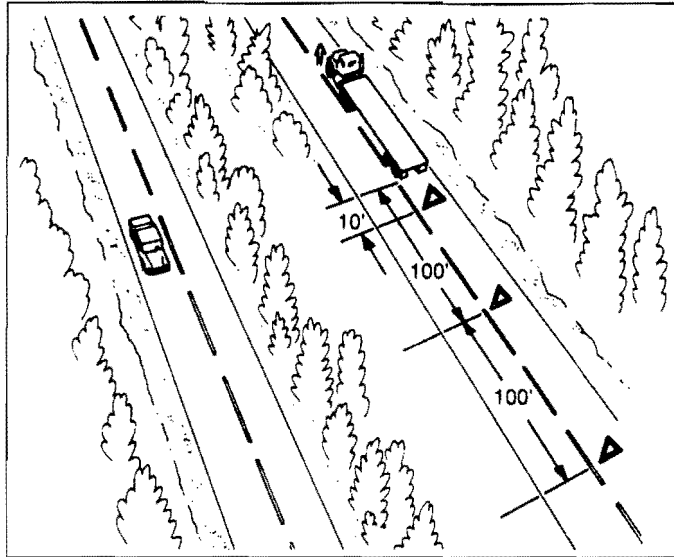

Figure 2-10.
- If you must stop on or by a one-way or divided highway, place warning devices 10 feet, 100 feet, and 200 feet toward the approaching traffic. (See Figure 2-10.)